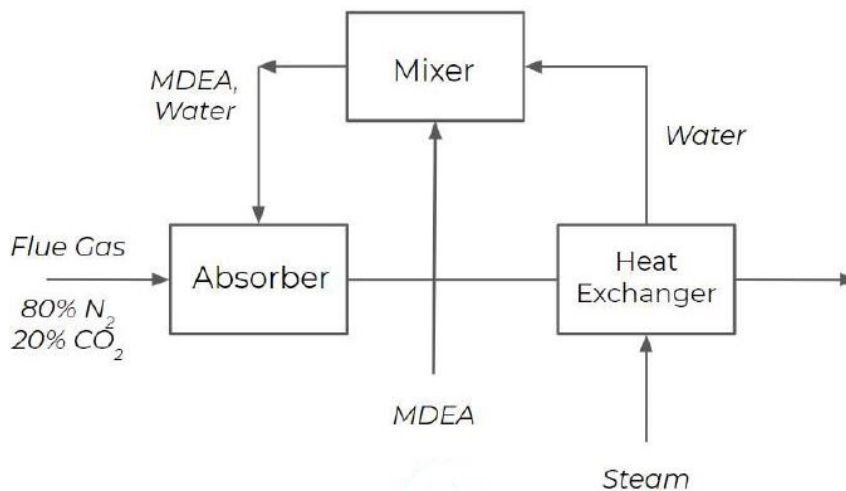

Fig. 1
- a) What errors can you identify or missing information on the following BFD in Fig. 1? [3]